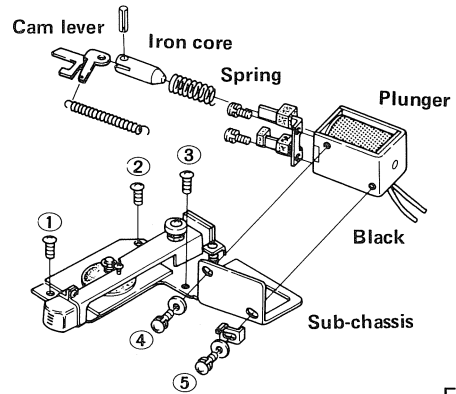

Fig. 16
1. Remove the two black leads soldered to the control unit (Fig. 16).
2. Unscrew the three screws ①, ②, ③ securing the sub-chassis.
3. Move the sub-chassis and unscrew the two screws ④, ⑤ securing the plunger.